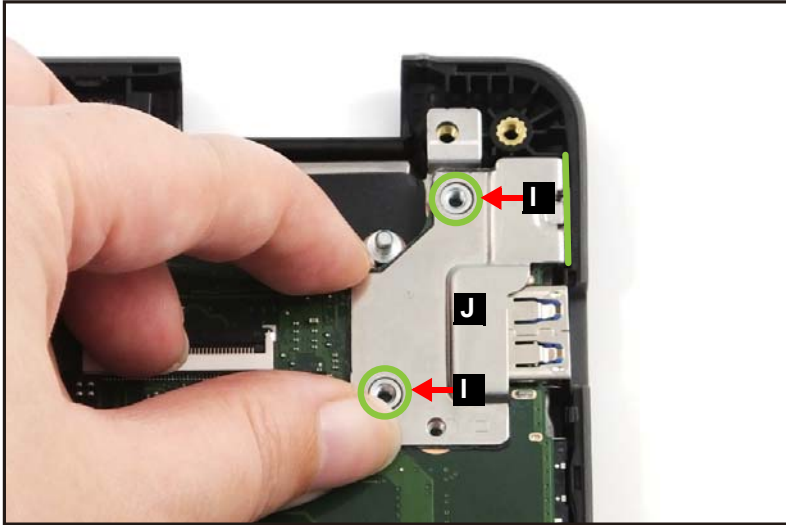

Figure 1-28. Mainboard Removal
10. Release the I/O bracket from the USB port slot and guide pins (I) on the top assembly. Then remove the I/O bracket (J) (Figure 1-28).